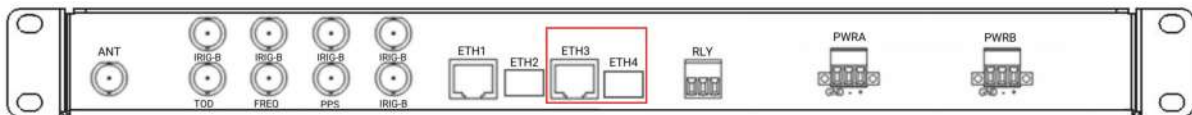

Figure 2.12 EKOSync 1588B ports that support HTTP
- In the EKOSync 1588B, all four ports support NTP and PTP, with the last two ports (**ETH3 and ETH4 as seen in Figure 2.12**) additionally reserved for HTTP access. The B device can broadcast on four different subnets as long as they are on separate subnets.